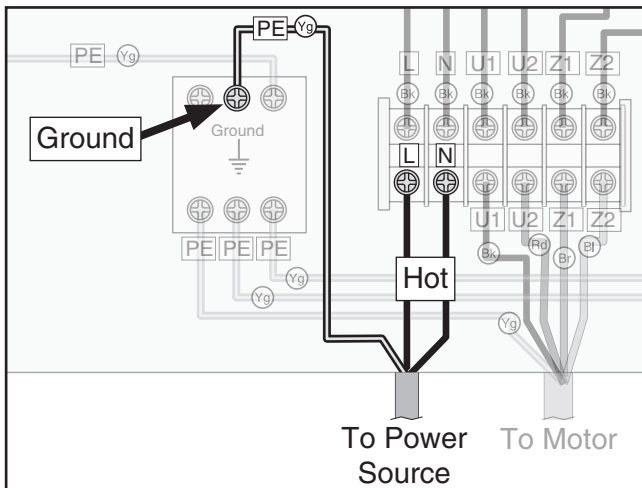

Figure 2. Incoming power cord connections.
2. Open the electrical cabinet and identify the **L** and **N** terminals, and the grounding plate (**PE**) at the bottom left of the cabinet (see **Figure 2**).